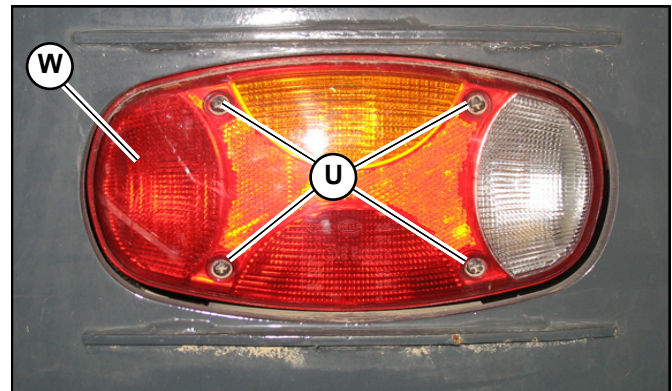

Fig. 238 – Left Tail Light Lens
1. Remove screws (U, Fig. 238) securing tail light lens (W) and remove the lens.